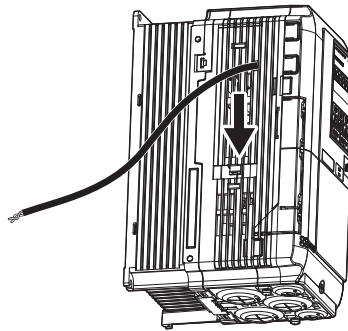

Figure 4.32 Reattaching the Connector Cover (2)
4. Slide the connector cover back into place as shown in Figure 4.32.